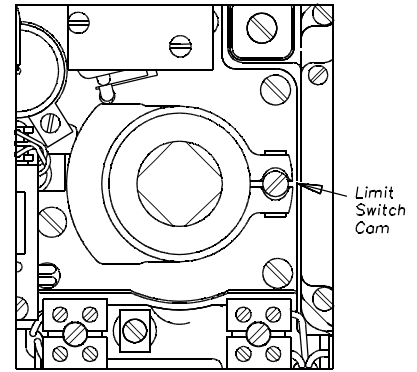

FIGURE 6b. DIGITAL EL SWITCH STRIKER METAL COUPLING. OPEN BOX, TOP VIEW.
4.2.2 Metal coupling cams are adjusted by releasing the screw shown in figure 6b, moving to desired position and re tightening. Set the lever cam first. Ensure the clamp section of the cam does not strike a switch at any part in the actuator's travel.